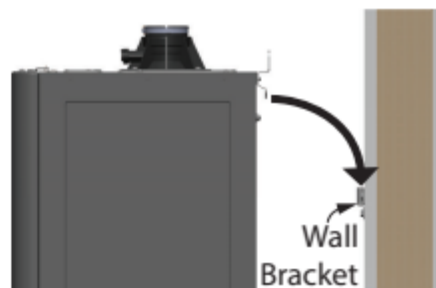

Figure 7 - Mounting the water heater.
1. Hang the water heater on the wall bracket. See Figure 7.